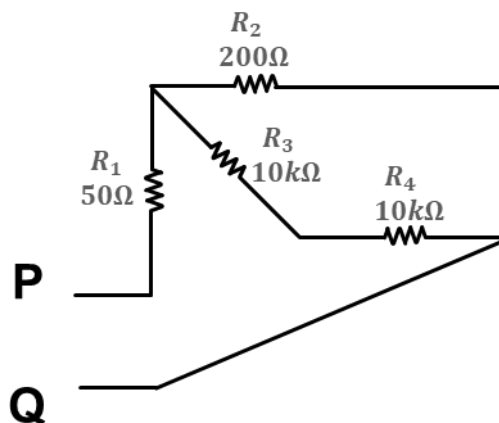

Figure Q5A – Resistor network
- (a) Calculate the equivalent resistance between P and Q in the circuit shown in Figure Q5A below. How much DC voltage must be applied across the total circuit (nodes P and Q) so that the current in R_3 is at least 2.5A? [10]